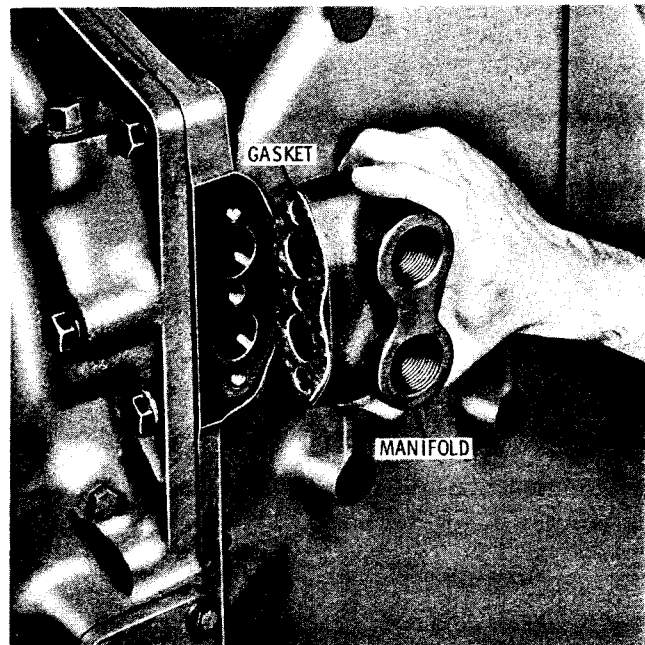

Fig. 7-59. Installing oil cooler manifold
(9) Install the manifold gasket and oil cooler manifold (figure 7-59). The threaded ports in the manifold face forward in normal applications. To retain the manifold, install three 7/16-14 x 3 1/4-inch bolts, with lock washers. Tighten the bolts evenly to 42 to 50 pound feet torque.
(10) If the transmission is equipped with a power takeoff at the rear, install shaft 8 (foldout 14), bearing 9, coupling 10 and gasket 11. Install the power takeoff disconnect assembly as rebuilt in paragraph 6-6. Retain the assembly with six 1/2-13 x 1 1/2-inch bolts. Tighten the bolts to 67 to 80 pound feet torque.